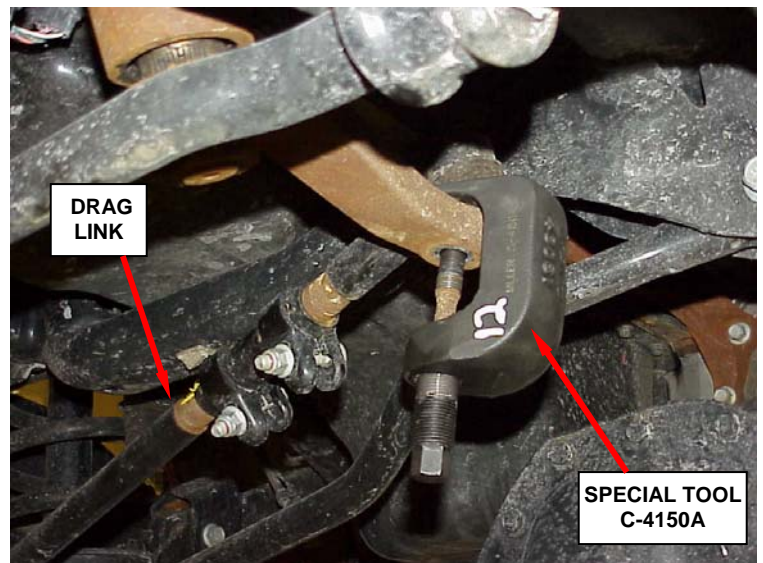

Figure 14 – Special Tool C-4150A
- b. Use Special Tool C-4150A to separate the steering inner drag link joint from the pitman arm (Figure 14).